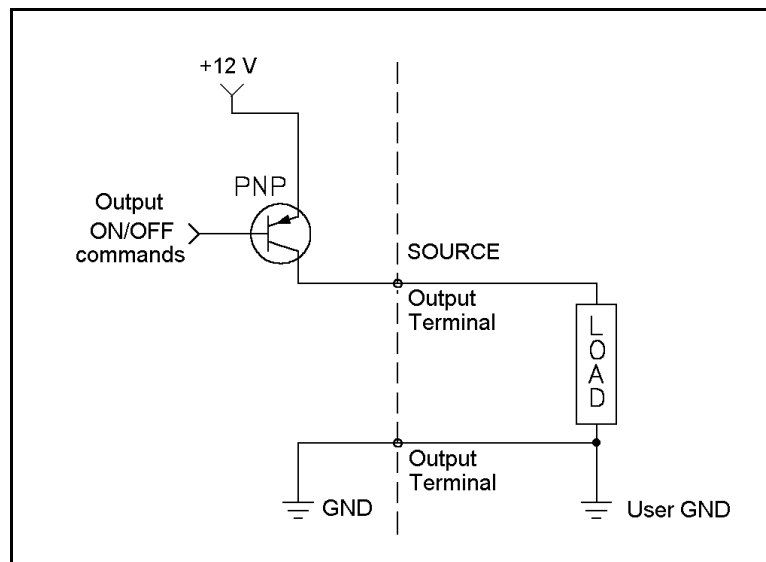

Figure 3-7: Open Collector Output: PNP Mode
- OFF is defined as V (refer to Figure 3-7)